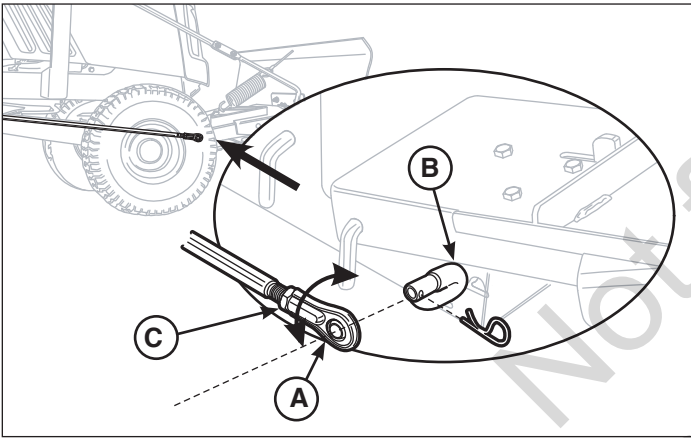

Figure 21
Lubricate the snow blade as shown in Figure 21. Where an oil can is shown use 30 weight oil. Where a grease gun is shown, use lithium grease. Lubricate the following areas:
1. Fully raise the snow blade off the ground. If the transport height is not correct, lower the snow blade to the ground and remove the lift arm (A, Figure 21) from the bell crank (B).
2. Loosen the lift arm ball joint lock nut (C) and rotate the ball joint (A) either right or left to adjust the proper lift height.